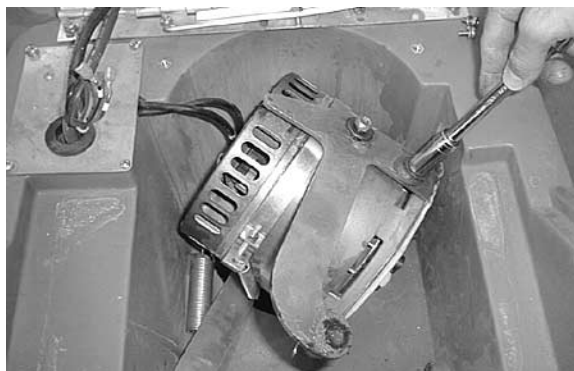

Fig. 5
7. Lift motor out and position as shown, do not disconnect wiring. Remove (2) brackets from motor and dispose, 9/16" wrench required. Keep mounting hardware (Figure 5).